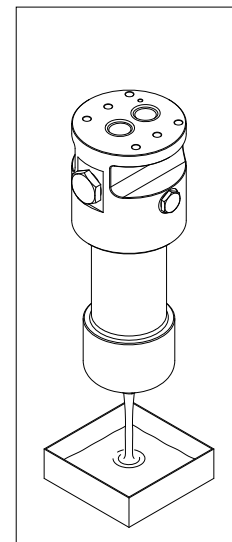

fig. 18
- (Fig. 18) Drain the operating fluid from the bottom of the bowl into the collection vessel